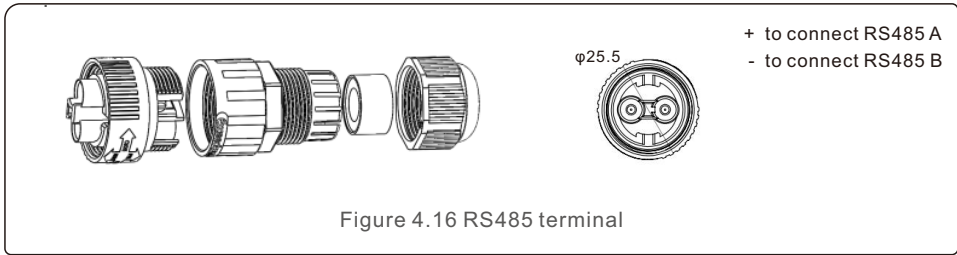

Figure 4.16 RS485 terminal
- a. Refer to figure 4.16, the RS485 terminals for inverter and EPM are already assembled.